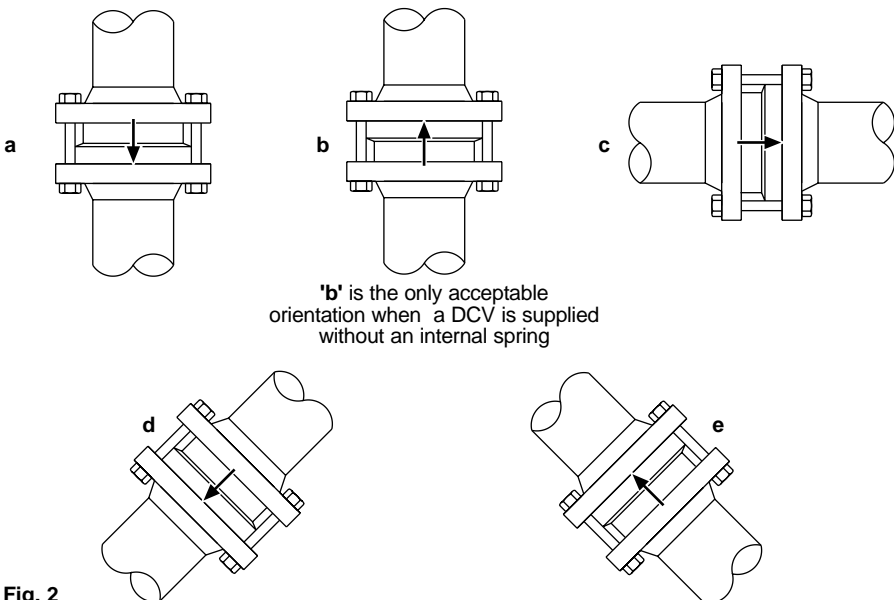

Fig. 2
- 3.5** Disc check valves simply fit between two pipe flanges (see Fig. 2). Standard gaskets are used either side of the valve together with longer bolts or studs. **Note:** flanges, bolts (or studs), nuts and joint gaskets to be provided by the installer. Normal sensible flange bolting practice should be followed eg. torque tightening the bolts in opposite sequence.